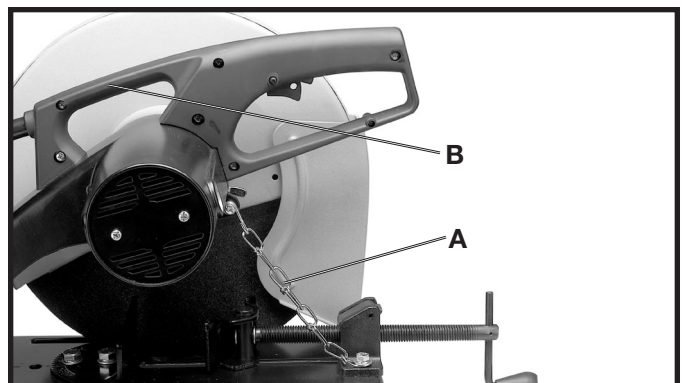

Fig. 15
When transporting the machine, the cutting head should always be locked in the down position by means of the hold down chain (A) Fig. 15. A carrying handle (B) is provided for ease of transportation.